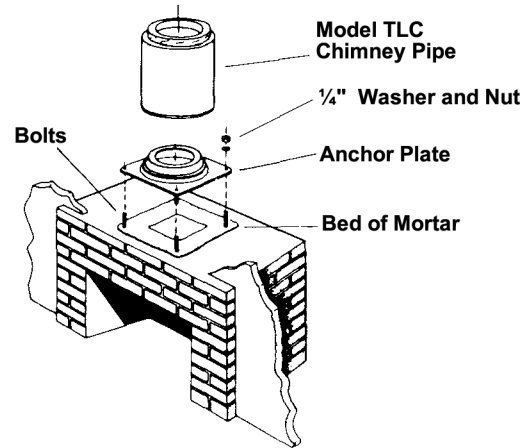

Figure 4 Anchor Plate Installation in Masonry Fireplace
With A-frames, beamed ceilings, etc., observe precautions below for single-wall connector clearances. Single-wall pipe must not pass through framing, wood walls, or into ceiling or roof (Figure 4).
1. Using the anchor plate as a template, centered over the outlet opening, drill and anchor four $\frac{1}{4}$ " diameter bolts 2" long securely into the top of the masonry fireplace. See Figure 4.